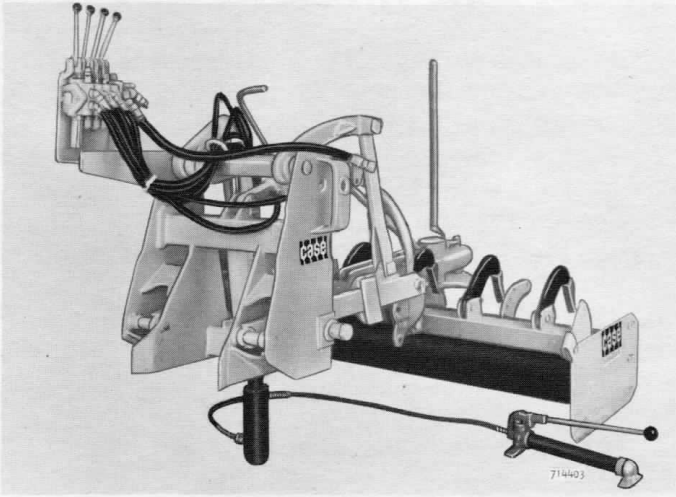

Figure 46 - Hitch Raised With Jack
- a. If the rear mounted implement weights less than 500 pounds, use a hoist or jack to lift the hitch out of the lower support arms. Raise the hitch until the control valve mounting arm clears the tension rod. See Figure 46.